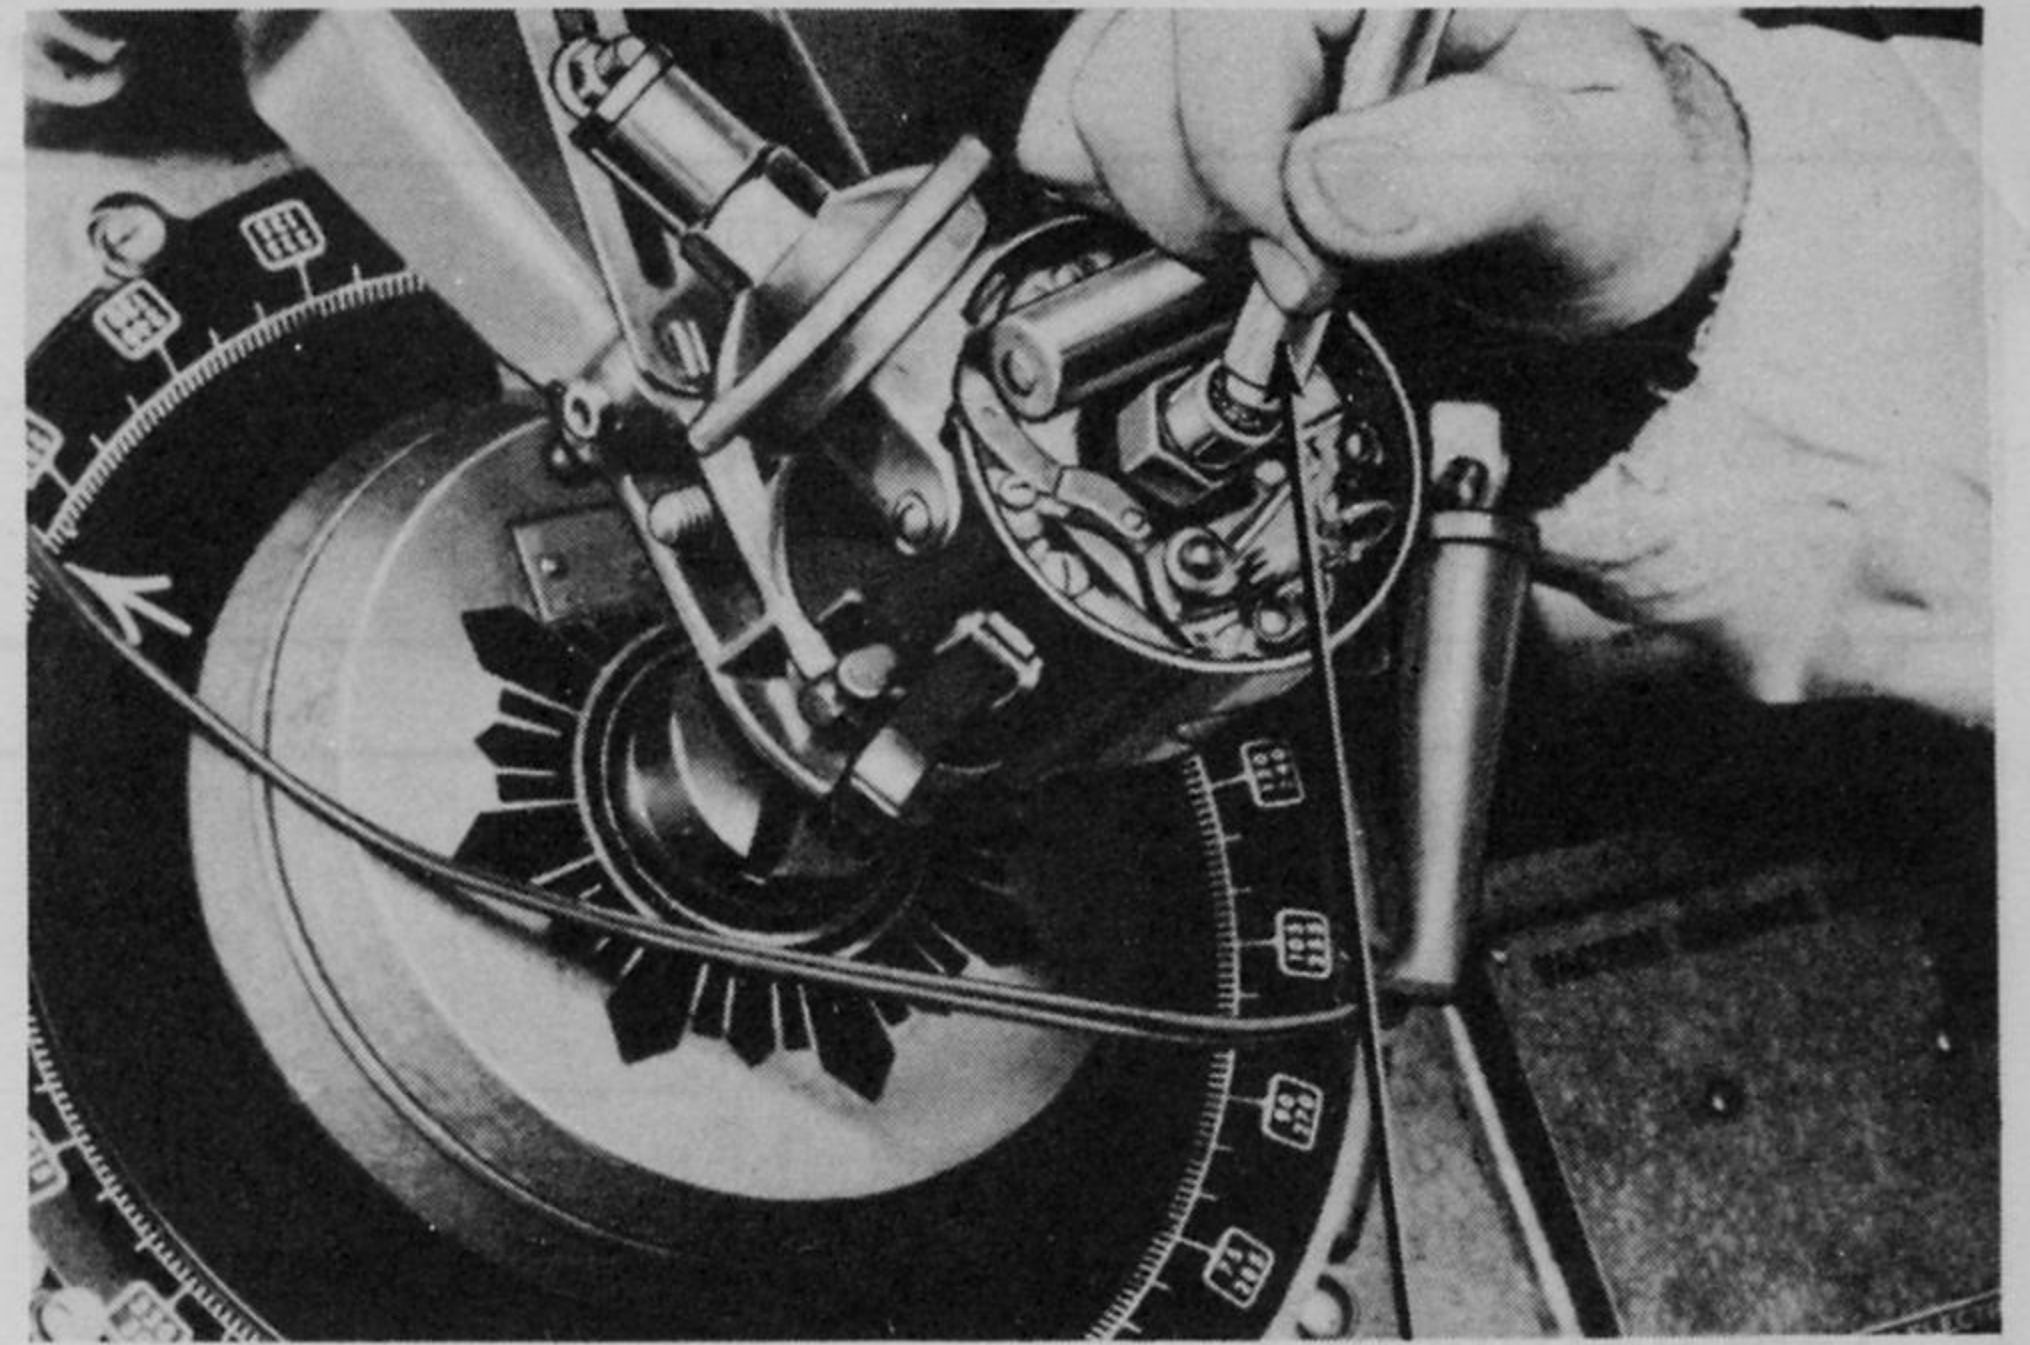

Fig. 7—Checking Distributor Shaft and Bearing Wear
6. Distributor Performance Tests. Install the distributor in a Distributor Tester as shown in Figs. 7 and 8.
(a) Cam and Bearing Play. Drive the distributor at low speed. With a wood dowel, or piece of plastic or brass rod, in the end of the cam, as shown in Fig. 7, apply pressure alternately toward and away from the breaker arm rubbing block. If checking the distributor used on Kaiser models apply pressure directly to the side of the cam due to the slot at the upper end of the cam which might interfere with the wood dowel. Play resulting from shaft and bearing wear will change both the spark position indication on the degree ring and the dwell angle. Instructions for bearing replacement are provided in Section 15, "Electrical."